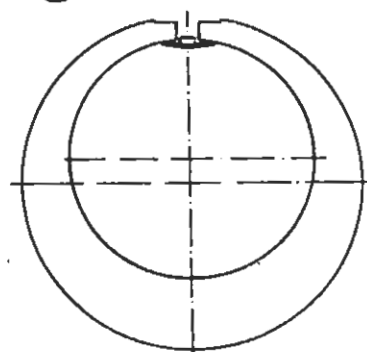

Fig. 1.
2. Place the band in the cylinder barrel with the flat side facing the slit. Fig. 1.